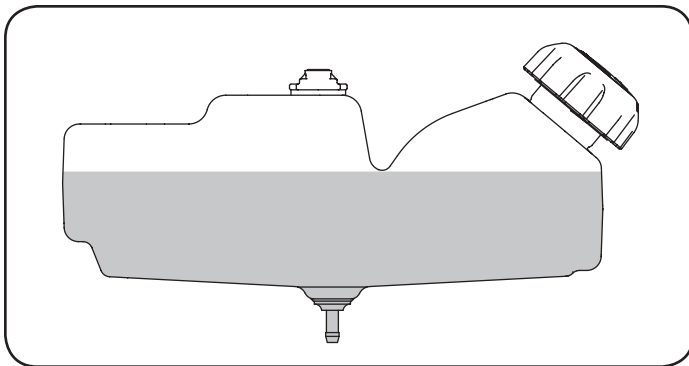

Figure 18
3. Fill tank until fuel reaches 1/2 inch below the bottom of the filler neck to allow space for fuel expansion. Be careful not to overfill. See Figure 18.